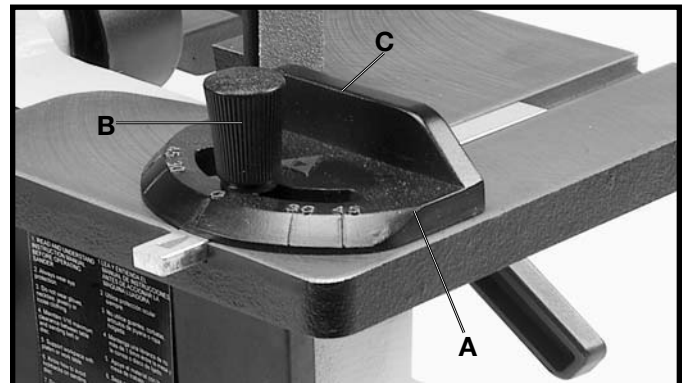

Fig. 33
A miter gage (A) Fig. 33, is supplied with your sander and can be used on the disc table, as shown, or on the belt table. The miter gage can be set up to 45 degrees right or left by loosening lock knob (B), tilting miter gage body (C) to the desired angle and tightening lock knob (B).